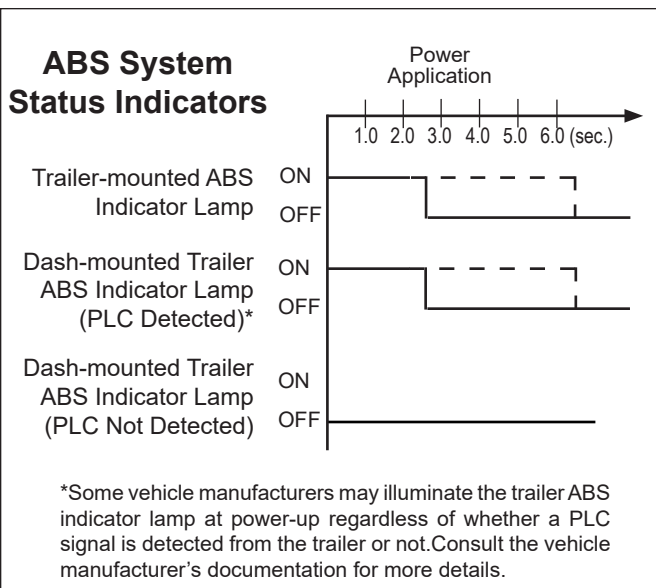

FIGURE 9 - TRAILER ABS LAMP POWER-UP SEQUENCE
At power-up, with no detected DTCs, the trailer ABS indicator lamp will illuminate for approximately two (2) to six (6) seconds as a bulb check and then turn off. *See Figure 9.*